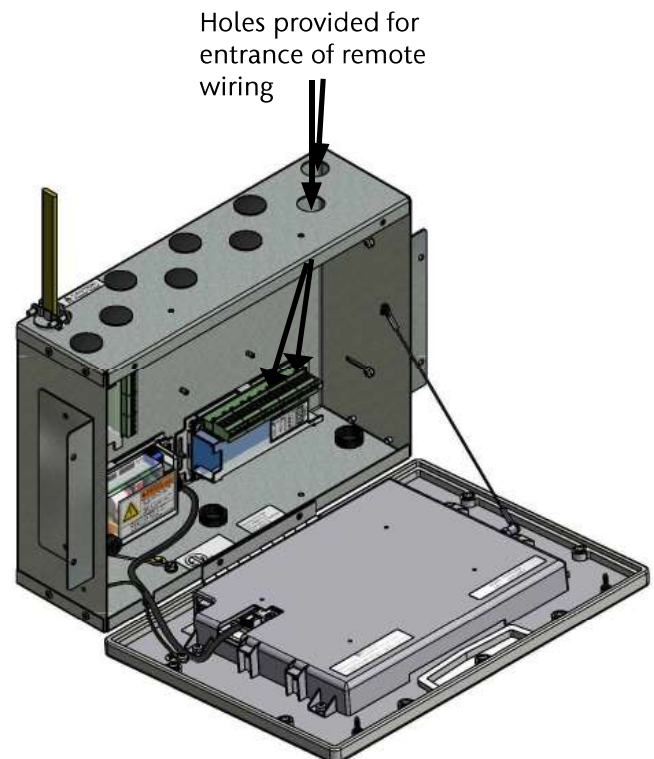

Figure 24: Remote Sensor Wire Routing
1. Identify each pair of twisted gas sensor wires inside the alarm rough-in box (Figure 24).